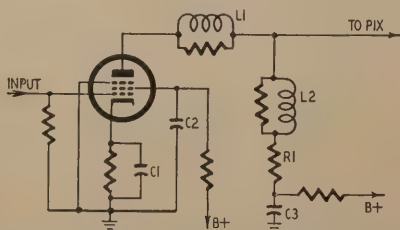

Fig. 4—Typical video amplifier stage.
well as smear. Overload is not controllable by varying the contrast control, since it occurs in the r.f. stage. To remedy overload, first check the adjustment of the a.g.c. control, if the receiver has one. Where this adjustment does not remedy the condition or no control is provided, an attenuation network should be connected at the antenna terminals. The values for several attenuator networks are shown in Fig. 4. The amount of attenuation needed is determined by the amount of overload. Carbon resistors only should be used.
2. Incorrect values of cathode bypass (C1) and screen bypass (C2) capacitors in the video amplifier (Fig. 4) stages. An open decoupling capacitor (C3) increases the effective value of the plate load resistor.
5. Open peaking coils (L1 and L2 in Fig. 4).